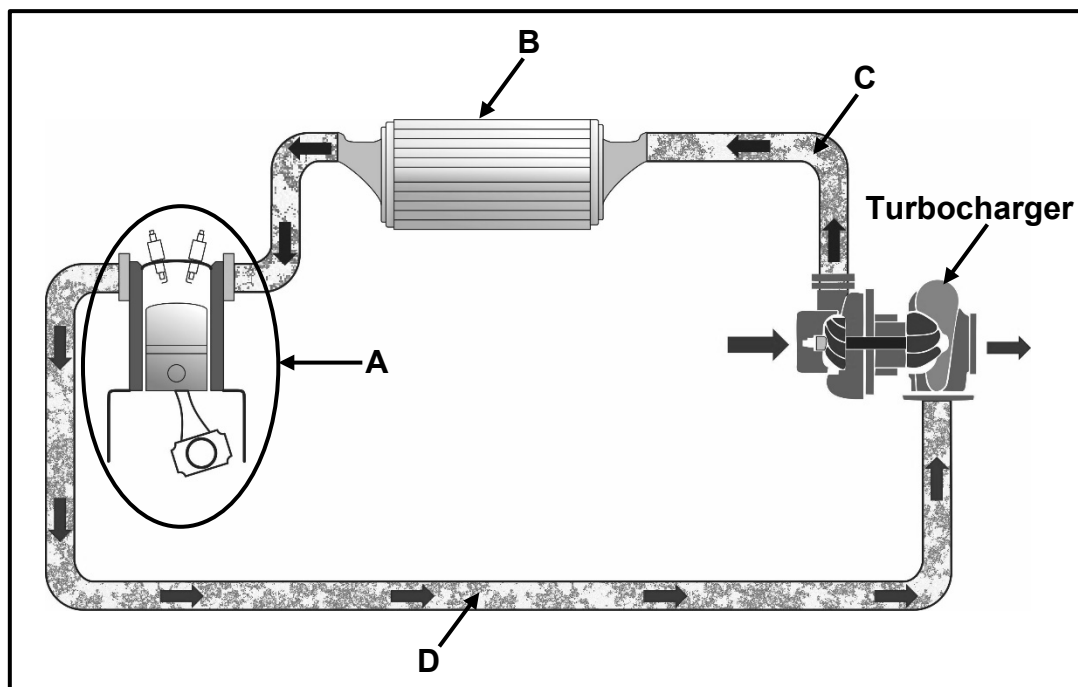

FIGURE 6.7
- 6.7 FIGURE 6.7 below shows how a turbocharger is connected to an internal combustion engine. Answer the questions that follow.